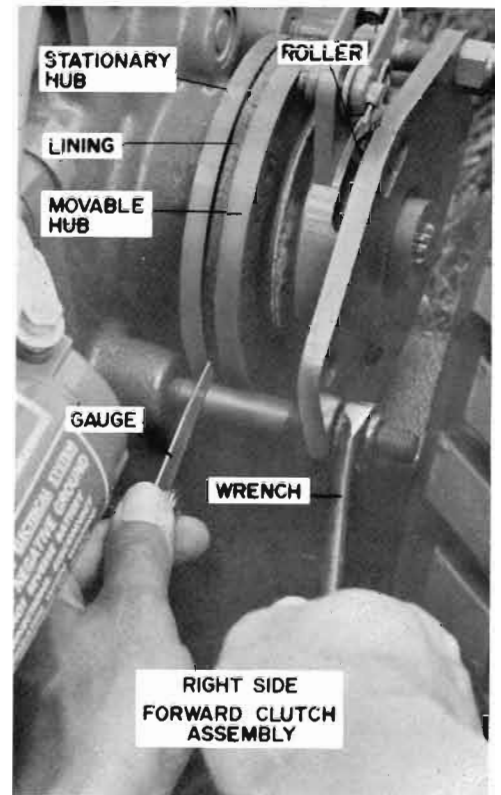

Figure 18
2. Gap must be equal around. Uneven wear will result in clutch failure. See fig 18 and 19.